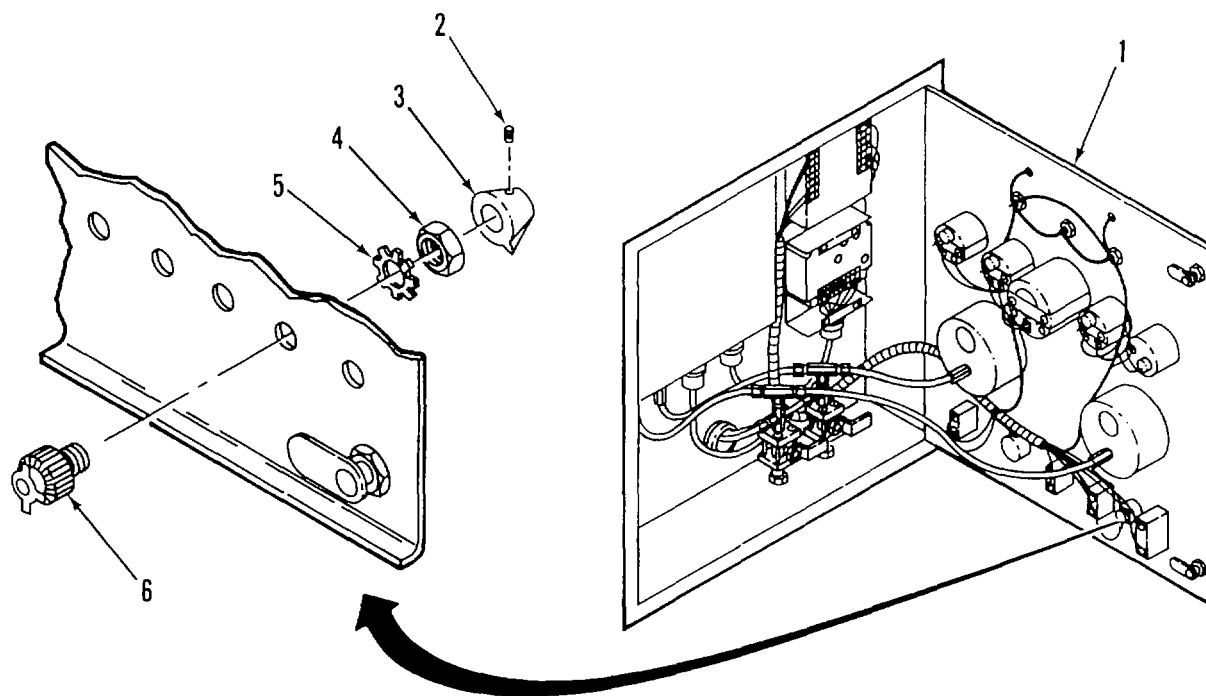

Figure 2-12. Rheostats
a. **REMOVE.** (Figure 2-12)
- (1) Open control panel door (1).